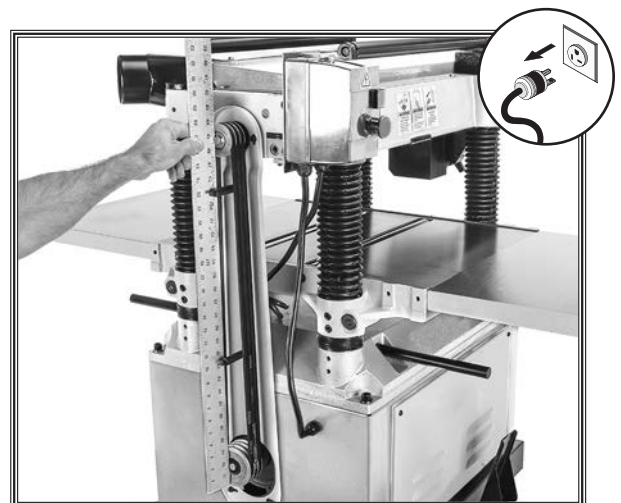

Figure 45. Example of checking pulley alignment.
2. Remove belt cover, then use straightedge to check pulley alignment, as shown in **Figure 45**.